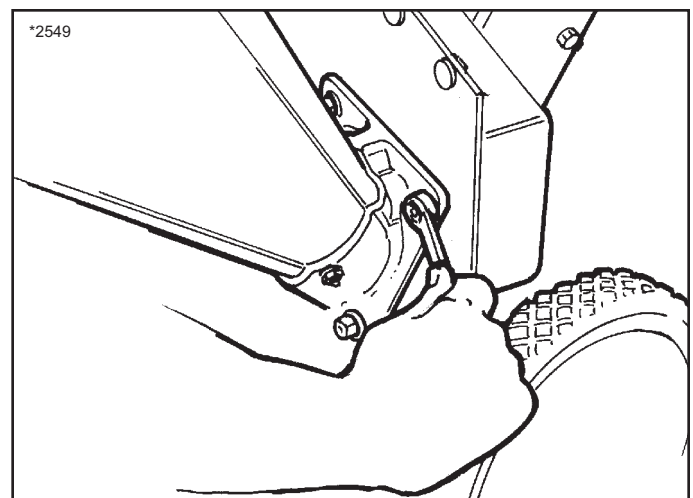

Figure 23. Removing Chipper Cone to Expose Chipping Knives
3. Using a 1/2" box wrench or socket, remove the chipper cone and mounting casting to expose the oval chipping block and one chipping knife. See Figure 23.